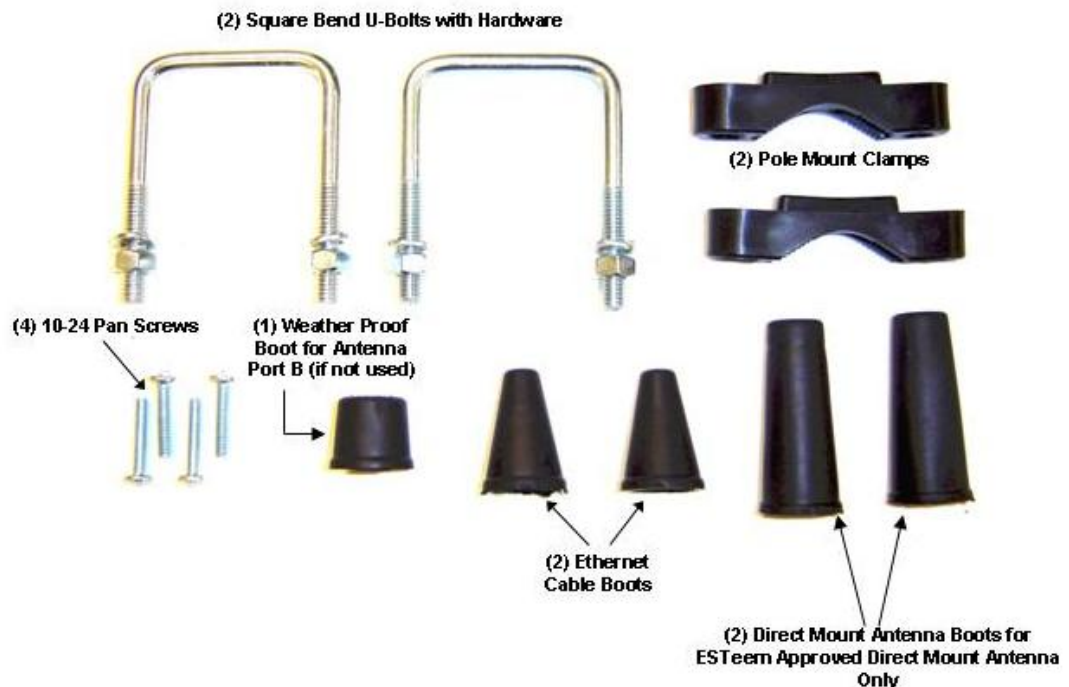

Figure 5: AA195PM Hardware Contents
3. Inventory the AA195PM Hardware bag for all the components listed in Figure 5.